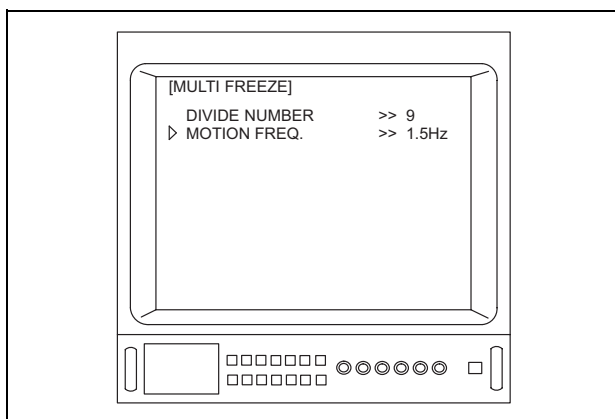

Figure 5.130
6. Depress the menu switches “◀” or “▶”, or the “↑/↓/←/→” key on the keyboard to move the arrow “▷” to “MOTION FREQ.” (see Figure 5.130).
Depending upon the OTV-S7V's settings, the menus shown in Figures 5.130 and/or 5.131 may appear different from those displayed on the video monitor.